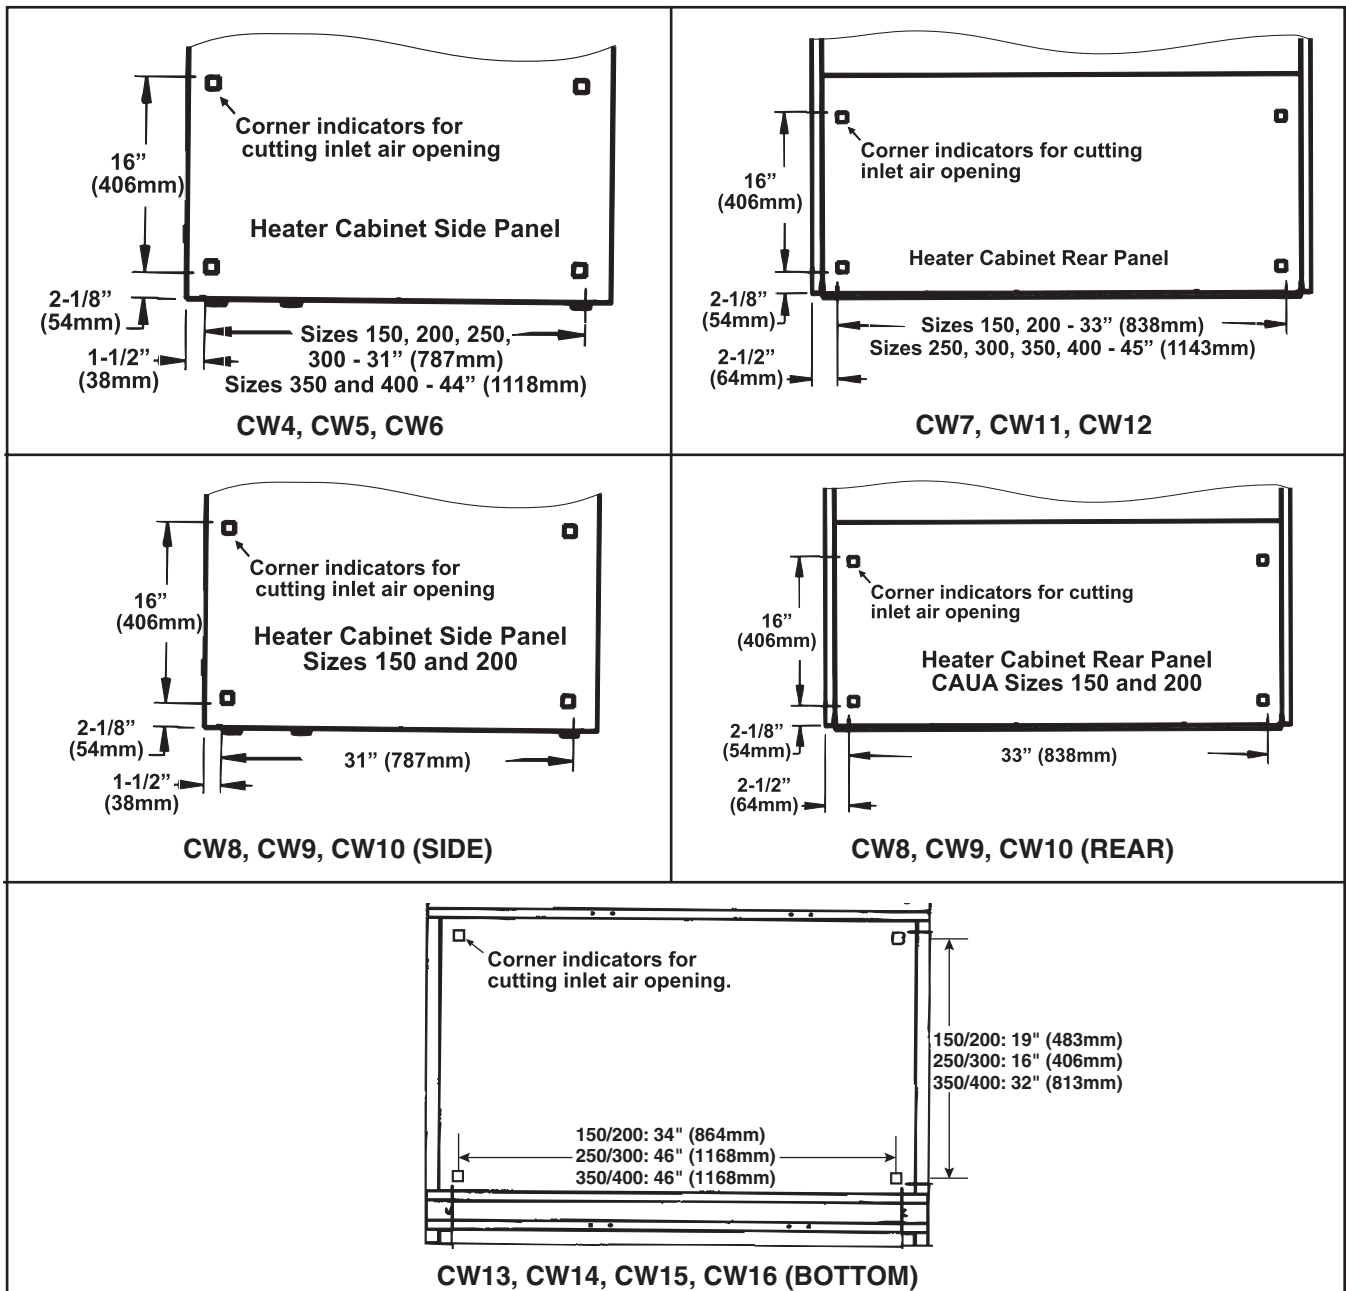

Figure 4. Embosses
2. Locate four embosses (see Figure 4) in metal panel where filter cabinet is to connect to heater. Embosses are corner indicators for inlet air opening.